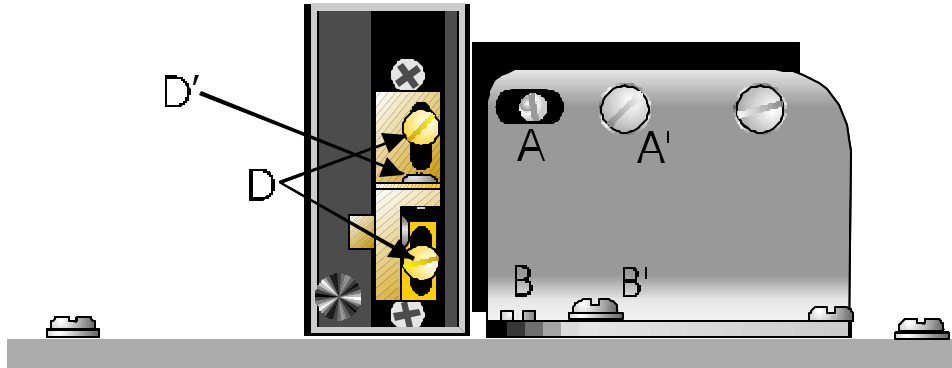

Figure 24. Filament Alignment
Filament replacement. First remove the chamber that encloses the heating filament. This is done by removing the black thumb screw at the lower left corner of the Plexiglas coverplate and then pulling the chamber straight off. The old heating filament can then be easily removed by loosening the two clamp screws (**D' in Figure 24, only one shown**) that hold it in place. Slide out the old filament, slip in a new one and center it over the air jet. Then re-tighten the two clamp screws.
2. Locate the aluminum angle plate to the right of the filament assembly and behind the right carrier bar. Two chrome eccentric screws (**A and B in Figure 24**) in slots are mounted on this bracket, one located on the vertical face of the bracket and one on the horizontal face.